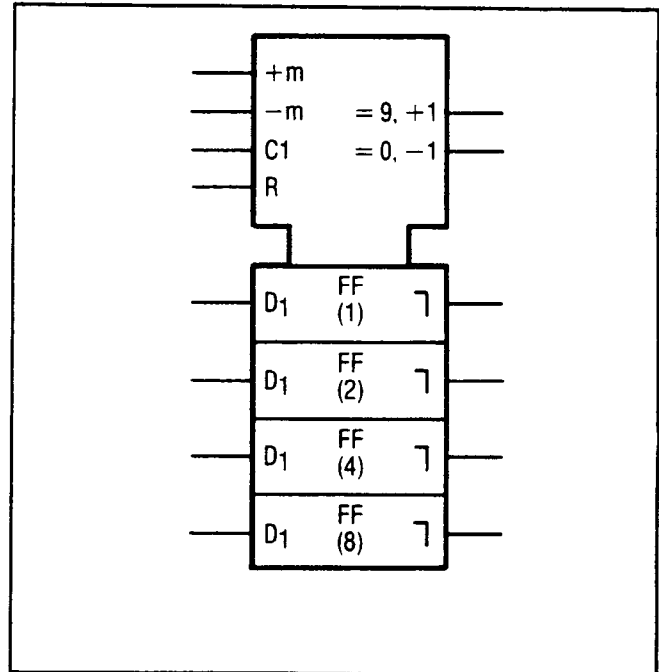

Figure 8-17. Up/Down Converter
**UP-DOWN Counter.** The counter control block shows common inputs to a Presettable Decade UP-DOWN Counter (see Figure 8-17). Notice that "+m" means count up (increment the count) by "m"; "-m" means count down by "m." Note: if  $m=1$ , then "m" may be omitted. Since the D-type flip-flops are master-slave, the output delay indicator is used.